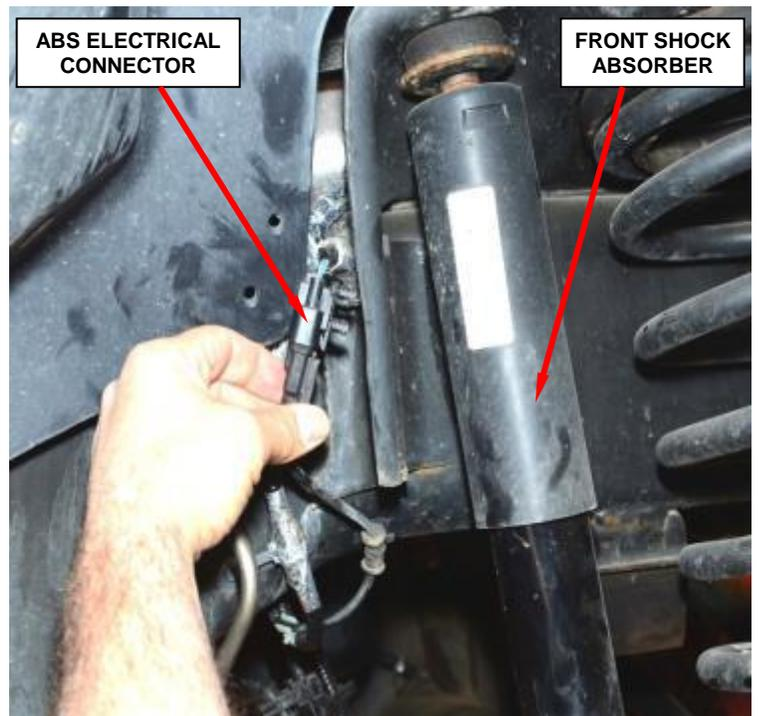

Figure 67 – ABS Wheel Speed Sensor Electrical Connector
8. Disconnect the Anti-Lock Brake System (ABS) wheel speed sensor electrical connector and unclip the ABS wire from brake hose (Figure 67).